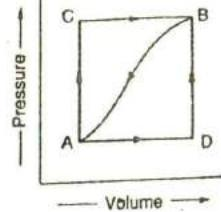

Fig. 3.3
**Example 3.1.** When a system is taken from the state A to the state B, in Fig. 3.3, along the path ACB, 80 kJ of heat flows into the system and the system does 30 kJ of work.